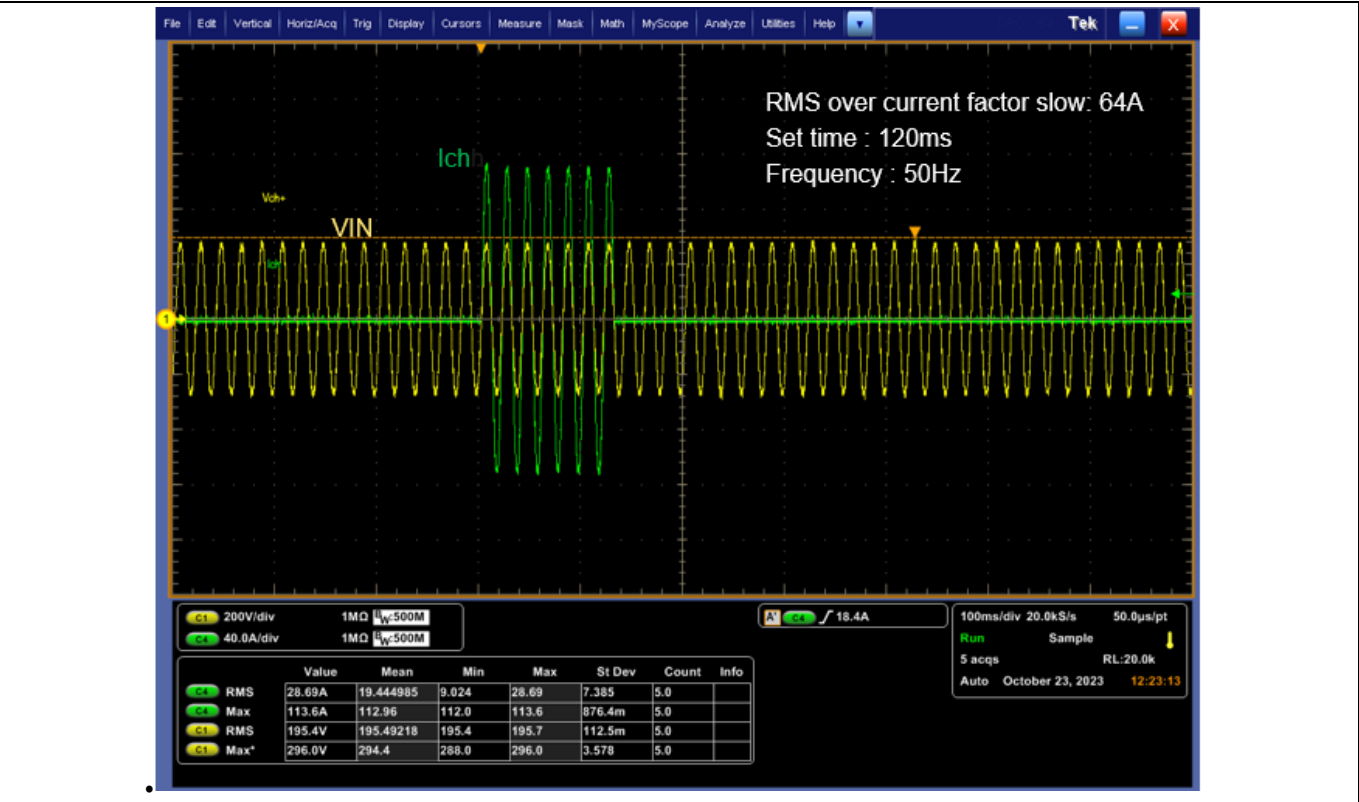

Figure 21 OVL low test
- OVL low: Latched error flag sets when  $I_{ch}$  is above the RMS overcurrent factor slow for set time. In AC system, the number of cycles to switch off the channel can be calculated as  $(\text{set\_time} * \text{frequency} + 0.5 \text{ or } 1)$ , refer Figure 21 test.